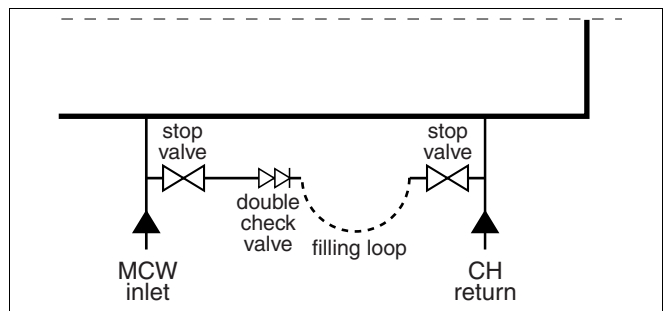

fig. 38 Connecting filling loop
- Connect filling loop (fig. 38).
- Open both stop valves (fig. 38).